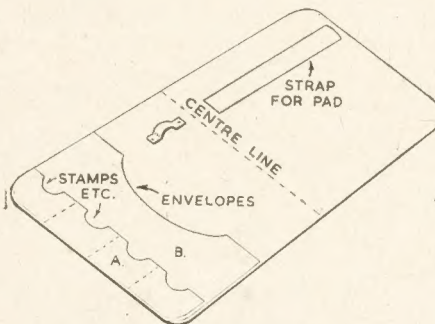
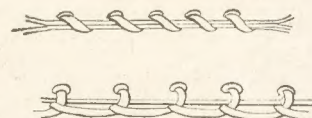
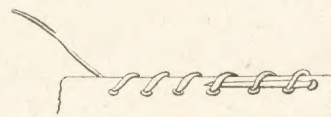
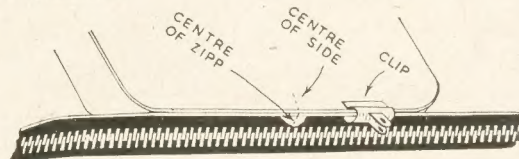

Fig. 3—Inside showing additions
Fig. 5—Two types of thonging
Fig. 6—Lacing at ends
Fig. 4—Fixing the body to the zipp fastener strip
The umbrella 'gag' is easy to prepare and work and always gets a laugh. Take a broken-down umbrella and remove the cover. Saw the handle off and throw away the stick part and ribs. Gather up the cover and put a weight in the extreme end (a heavy iron nut, for example). Tie the ends of the 'brolly' to the stick again, or, rather, the end of the shortened handle, just as though the ends were held with an umbrella ring. If the umbrella is held by the handle and the cover kept hanging down, without swinging, it is not easy to detect that it is ribless and stick-less (Fig. 6).
though no boots offered for sale will be in such a condition as that shown in Fig. 3. This wrecking must be done by the amateur clown.
Another quite good 'gag' is the giant toes peeping out of broken boots (Fig. 3). The toes are only of papier mâché and consist of a hollow portion shaped like that shown in Fig. 4. Fig. 5 shows, on a smaller scale, the fake viewed from behind. Actual old boots are used. These should be the oldest and biggest you can find. A market stall might yield a 'find' in this direction,
Edges of pockets, etc., that come on to the outer edge of the case are lightly glued. The other parts should be machined stitched into place very neatly (Fig. 3).
There are two methods of fastening the zipp to the body of the case—machine or hand stitching or thonging. When all the parts are dry and ready to assemble, mark the centres of the opening side and also the centre of the zipp strip (Fig. 4). Place the corresponding centre marks together and, using either bulldog clips of small size or large paper clips, ease the strip into position and tack or glue it in place. When thoroughly dry, machine stitch carefully.
If thonging is desired various types can be done, two of which are shown in Fig. 5. When starting the thonging the end should be 'whipped' between the first four or five lacings (Fig. 6) and the end fastened off in the same way. To join the leather thong taper the two ends for about 1 in. and glue together. Do not use until set.
to be packed down. Horsehair, flock, or whatever is to be used, should be pressed well down with the palm of the hand until it rises at the centre of the seat to a gentle curve, as at the cross section of the completed seat (B), Fig. 5. It should then be covered with a layer of cotton wool, preparatory to receiving its final outer covering.
little larger to allow for trimming. Lay it over and tack at the back. Draw down, and tack to the front, pressing the stuff down with the hand each time. Add more tacks all round until the corners are nearly reached. At the front corners the covering is neatly folded as at (C), Fig. 5, before tacking. At the back corners (A), a small square is cut from each to clear the back legs, then the rest is neatly pressed down between the stuffing and wood, and drawn tightly